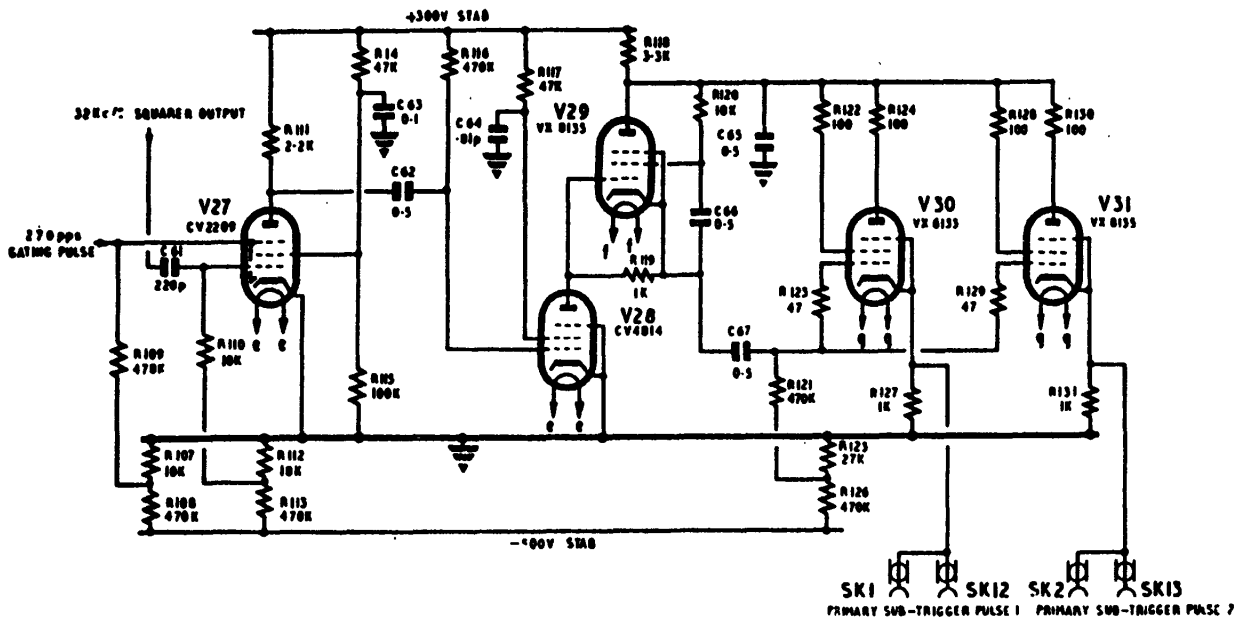
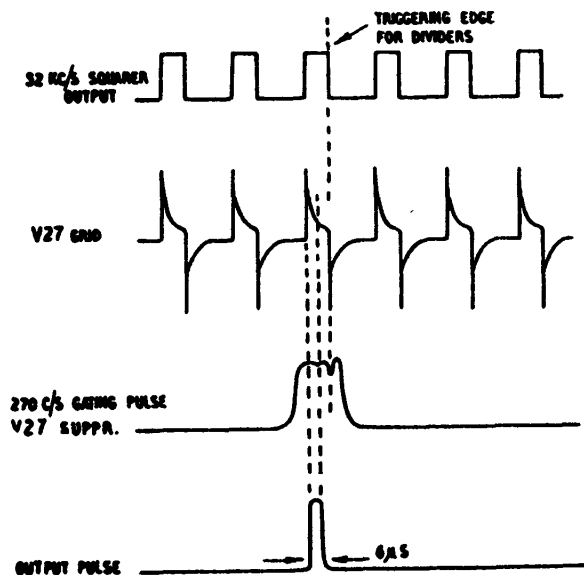

Fig. 11. Primary gated channel
Fig. 12. Gated and output waveforms
35. V27 is biased to cut-off on both its controls and suppressor grids (fig. 11). The positive-going gating waveform from the anode of V26 is applied to its suppressor grid; the input to its control grid is the 32 kc/s crystal controlled waveform from V5. This is differentiated by C61 and R110 and the positive pip before the negative-going trigger edge (fig. 12) opens up V27 producing a pulse of about $4 \mu s$ at the anode. The delay imposed on the trailing edge of the gate pulse ensures that the gate valve stays open on